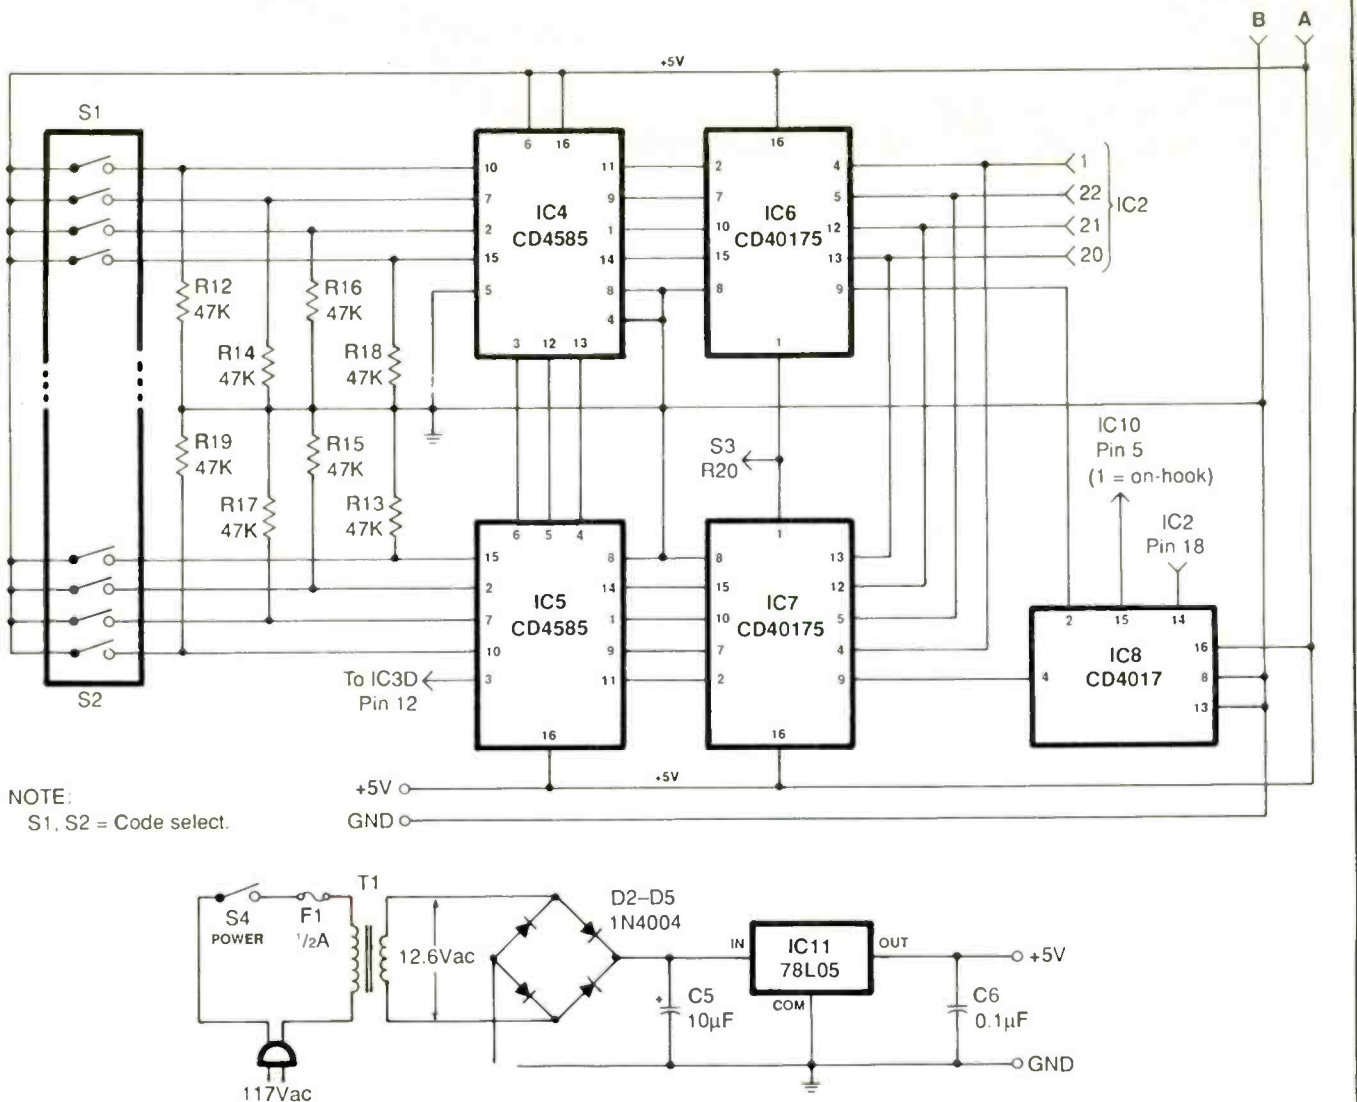

Fig. 1. Complete schematic diagram of the basic Dual-Application Telephone Security System.
(1) Fig. 1 2 Male 20 274-151 99
The complete schematic diagram of the Dual-Application Telephone Security System is shown in Fig. 1. The
When the caller presses the first digit of the security code, the hexadecimal data that contains the identity of the digit is contained in the 4-bit output of IC2, as illustrated in Figure 1. Fed to the data inputs of IC6, this information is latched by the rising clock pulse generated at pin 2 of IC8. Hence, the four bits that contain the identity of the first digit appears at the outputs of IC6 and remains stored there.